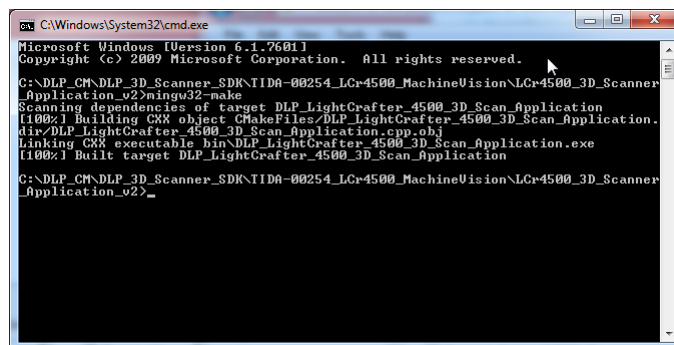
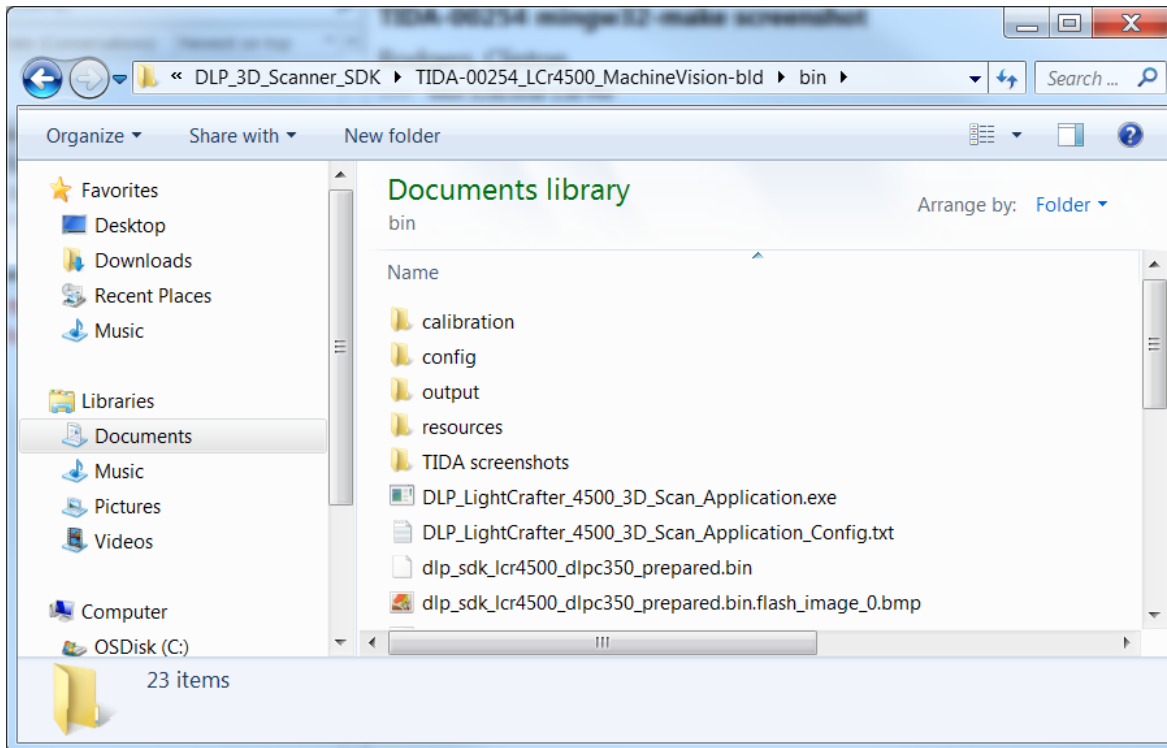

Figure 61. Creating the Executable
Figure 62. Executable Location
6. Open a command line window in the build folder and run the command "mingw32-make" as shown in Figure 61. This will create the executable which can be found in the binary folder as seen in Figure 62.